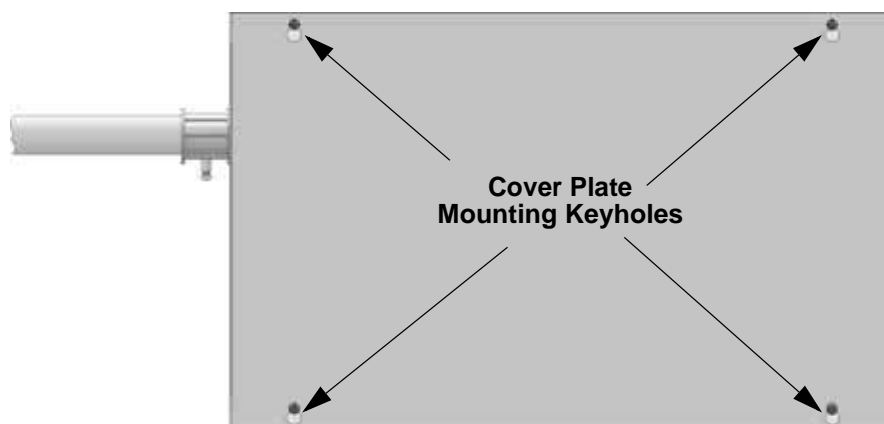

Figure 4-6 Cover Plate Mounting Keyholes and Cover Mounting Screws Alignment
6. Align the cover plate mounting keyhole over the cover mounting screws. See Figure 4-6.
7. Slide the cover into place and tighten the cover mounting screws. See Figure 4-6.